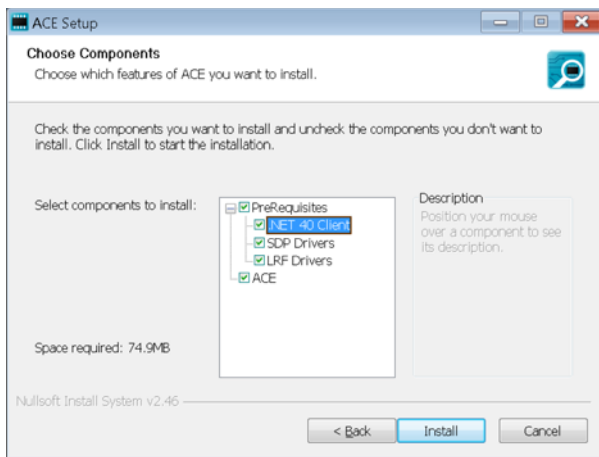

Figure 5. Required Driver Installations with the ACE Software
3. Install the latest version of the ACE software. During installation, ensure that the .Net 40 Client, SDP Drivers, the LRF Drivers installations are checked off as well (see Figure 5).